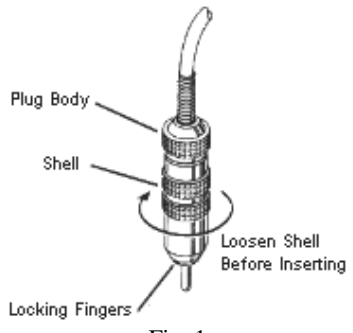

Fig. 1
2. Before inserting the gripper plug into the Quantum Battery, loosen the shell until the locking fingers just start to become hidden under the shell. Insert the plug into the battery output jack until it is firmly seated. If you do not loosen the shell first, the plug will be difficult to insert into the battery (Fig. 1)